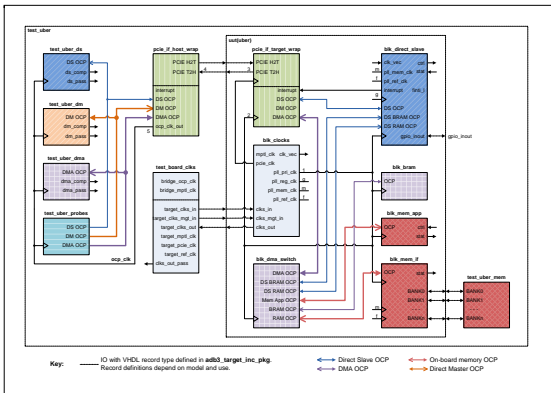

Figure 36 : Uber Design Testbench and Top Level Block Diagram (PCIe)
Figure 36 shows the testbench and main elements of the **uber** FPGA design using PCIe interface IP.
- The testbench OCP clock `ocp_clk_out` path is shown in Figure 36 as the route consisting of points 1, 2, 3, 4 and 5.